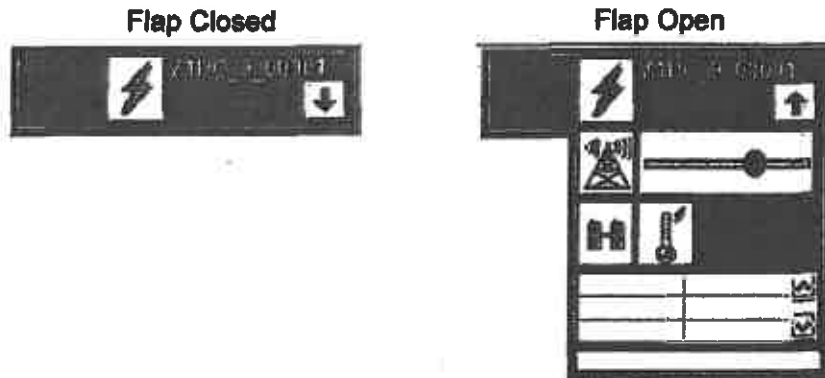

Figure 1-5: Compressed Radio Resource
- **Compressed Resource** – Allows the dispatcher to hide the indicators and controls the radio resource (Figure 1-5). The small arrow button opens and closes the resource to show the controls and indicators. This saves a tremendous amount of space on the screen by allowing the dispatcher to view only the most critical information for any given channel. This type of display is ideal for dispatchers monitoring several different channels where space in the resource folder is at a premium.